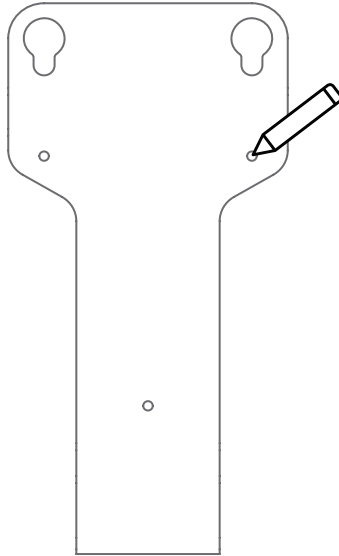

Fig. 4-4
2. Mark the mounting holes on the wall with the mounting template. (See Fig. 4-4)